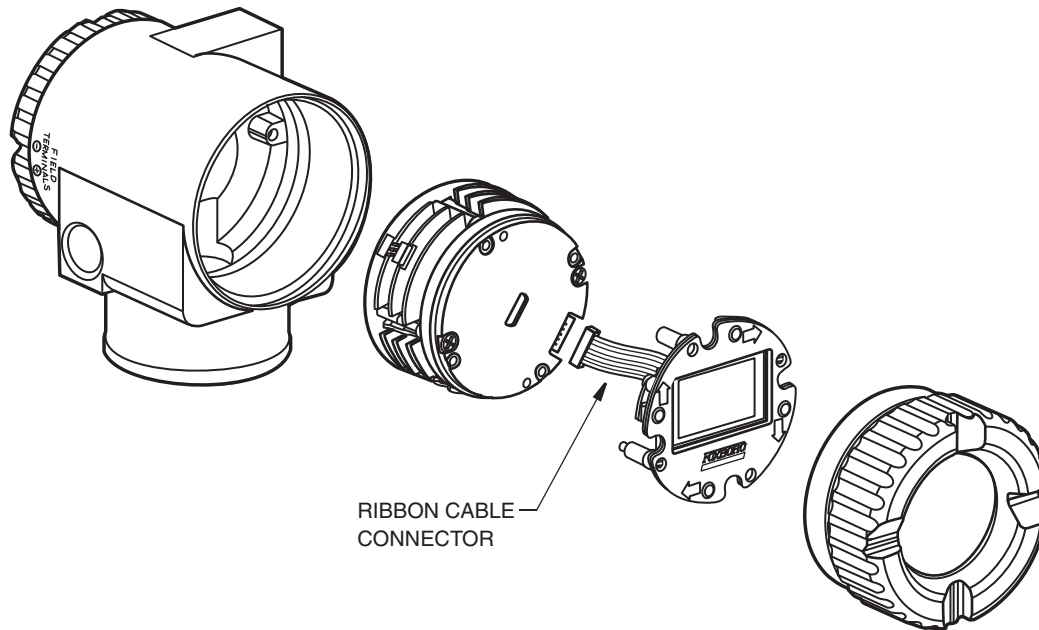

Figure 40. Display Connection
6. If the electronic module was equipped with a display, reassemble the display. Carefully fold the ribbon cable in the space between display and the electronic module so that it is not pinched. The display molding should rest firmly against the module molding before tightening the screws. See Figure 40.